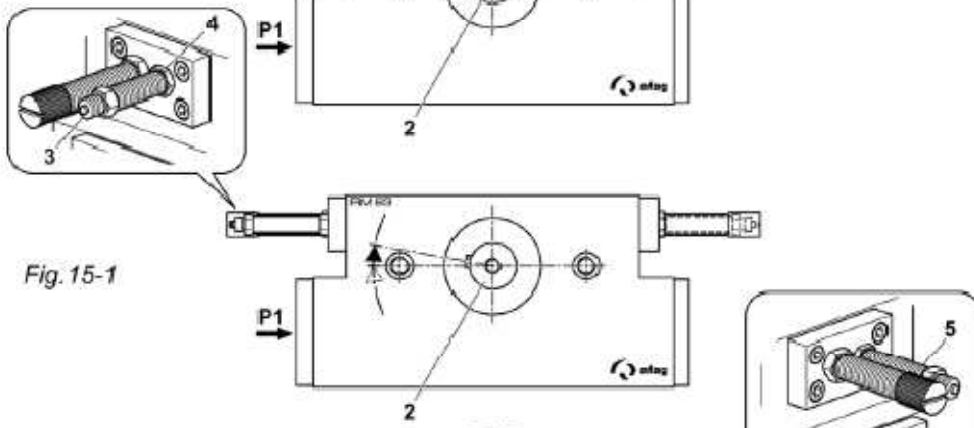

Fig. 15-1
3. Screw in the left –hand stop screw (3). The pinion shaft (2) turns in clockwise direction. Finely adjust the stop screw (one turn=1mm travel) until the pinion shaft has turned to the desired position. Now secure the stop screw with the lock nut (4) (Fig15-1)